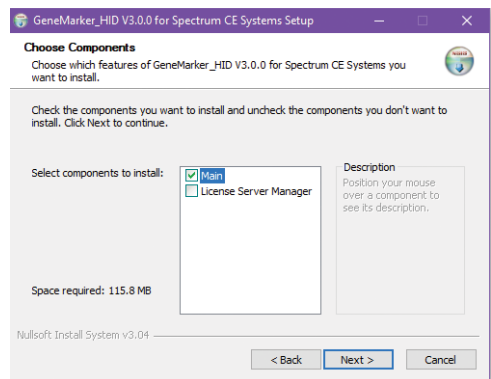

Figure 2. Selecting Main in the 'Choose Components' window.
5. Select **Main** in the 'Select components to install' field of the 'Choose Components' window (Figure 2), then select **Next**.